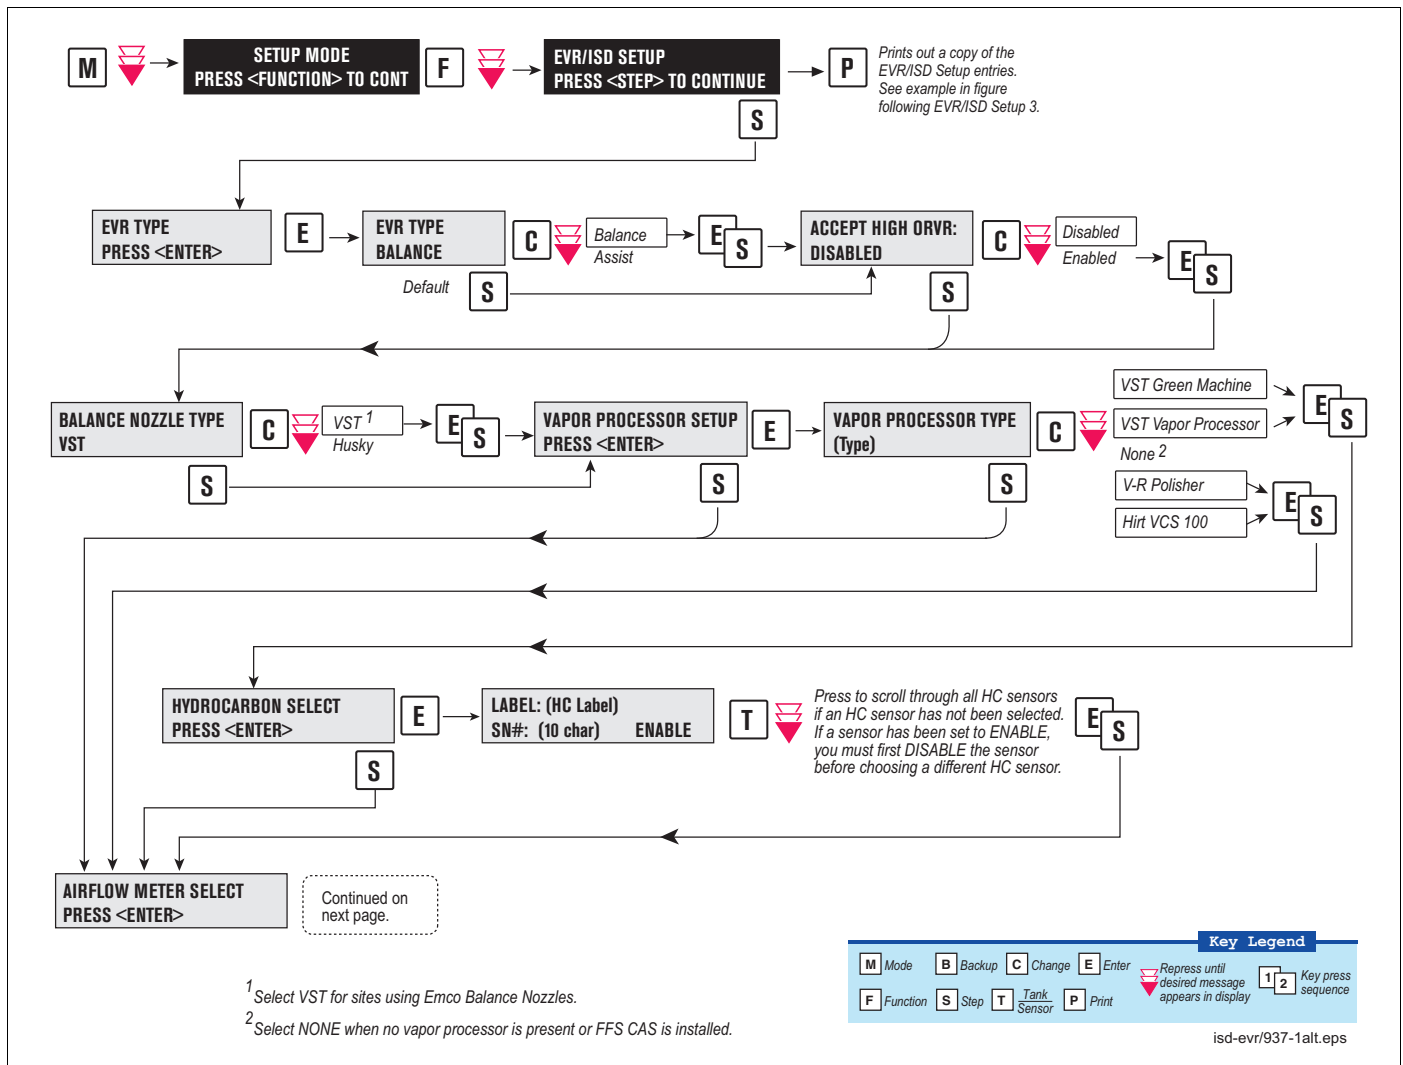
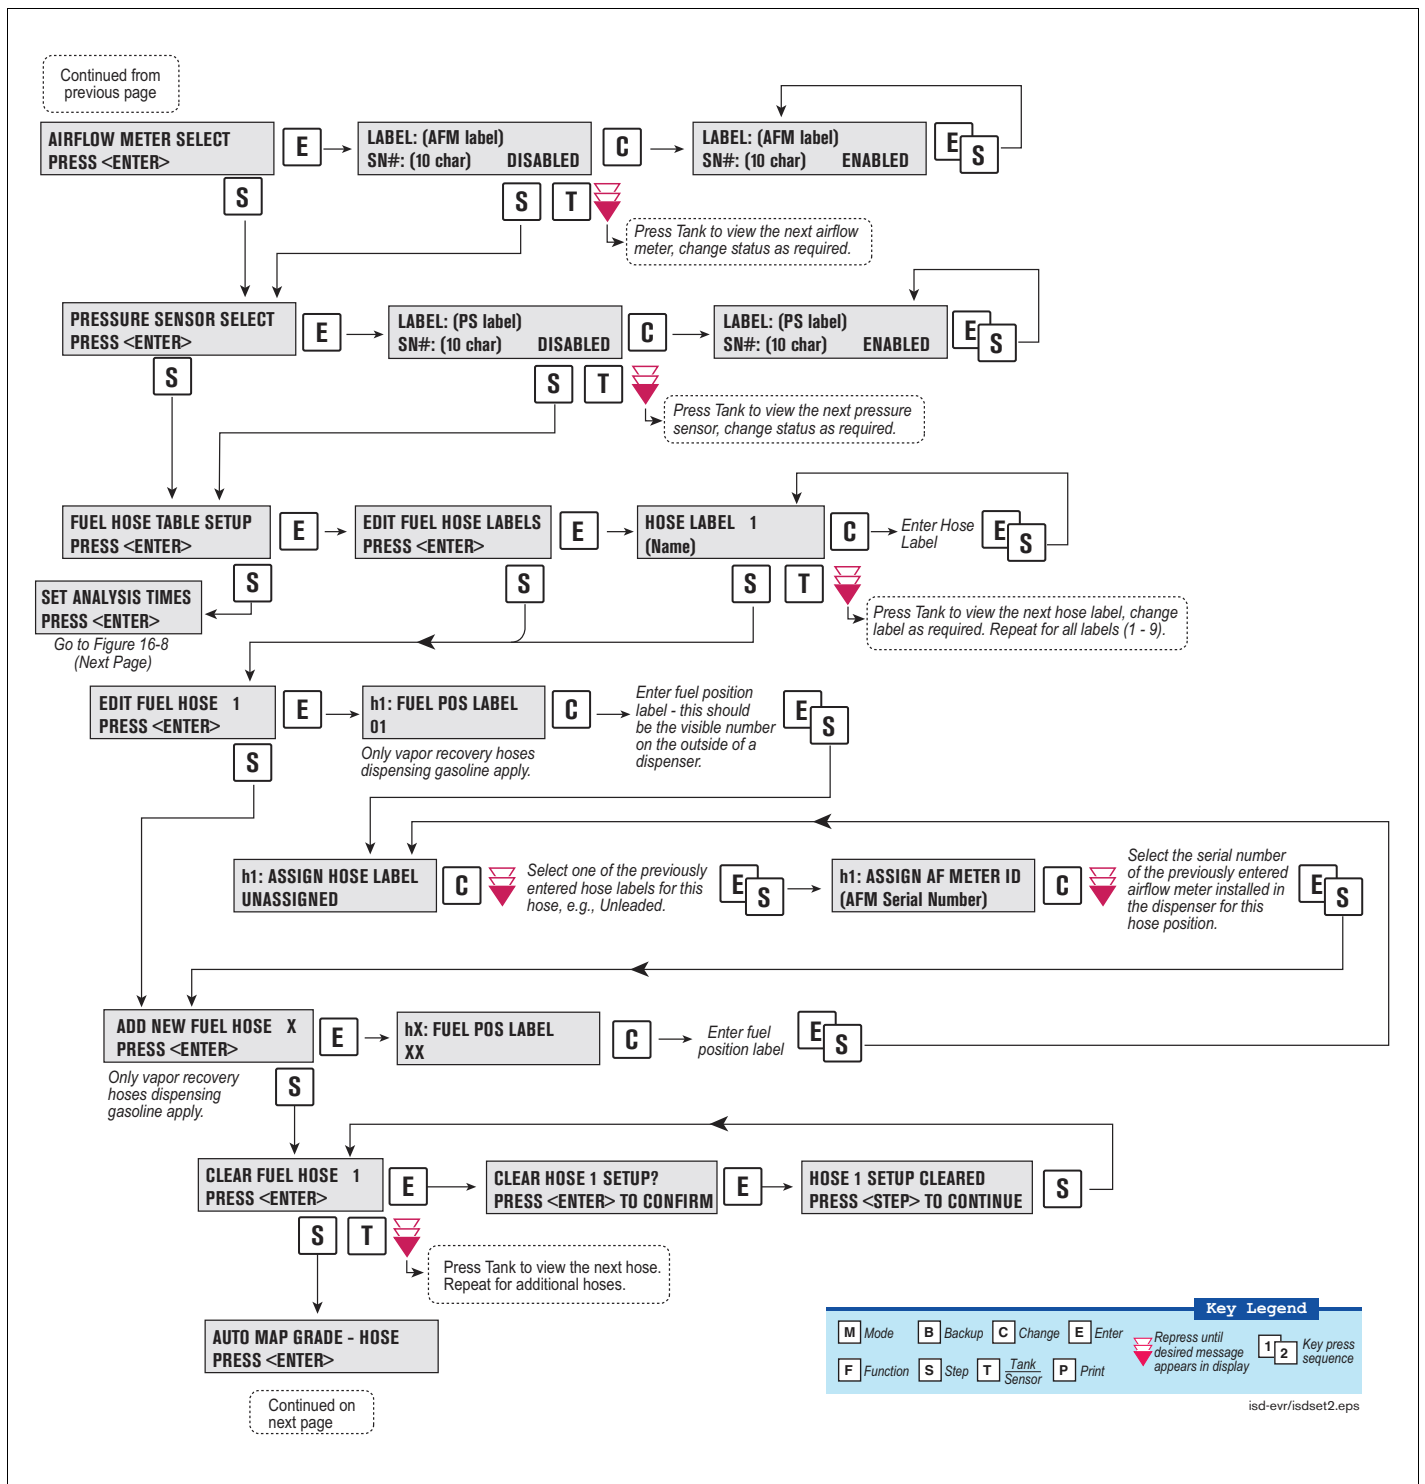
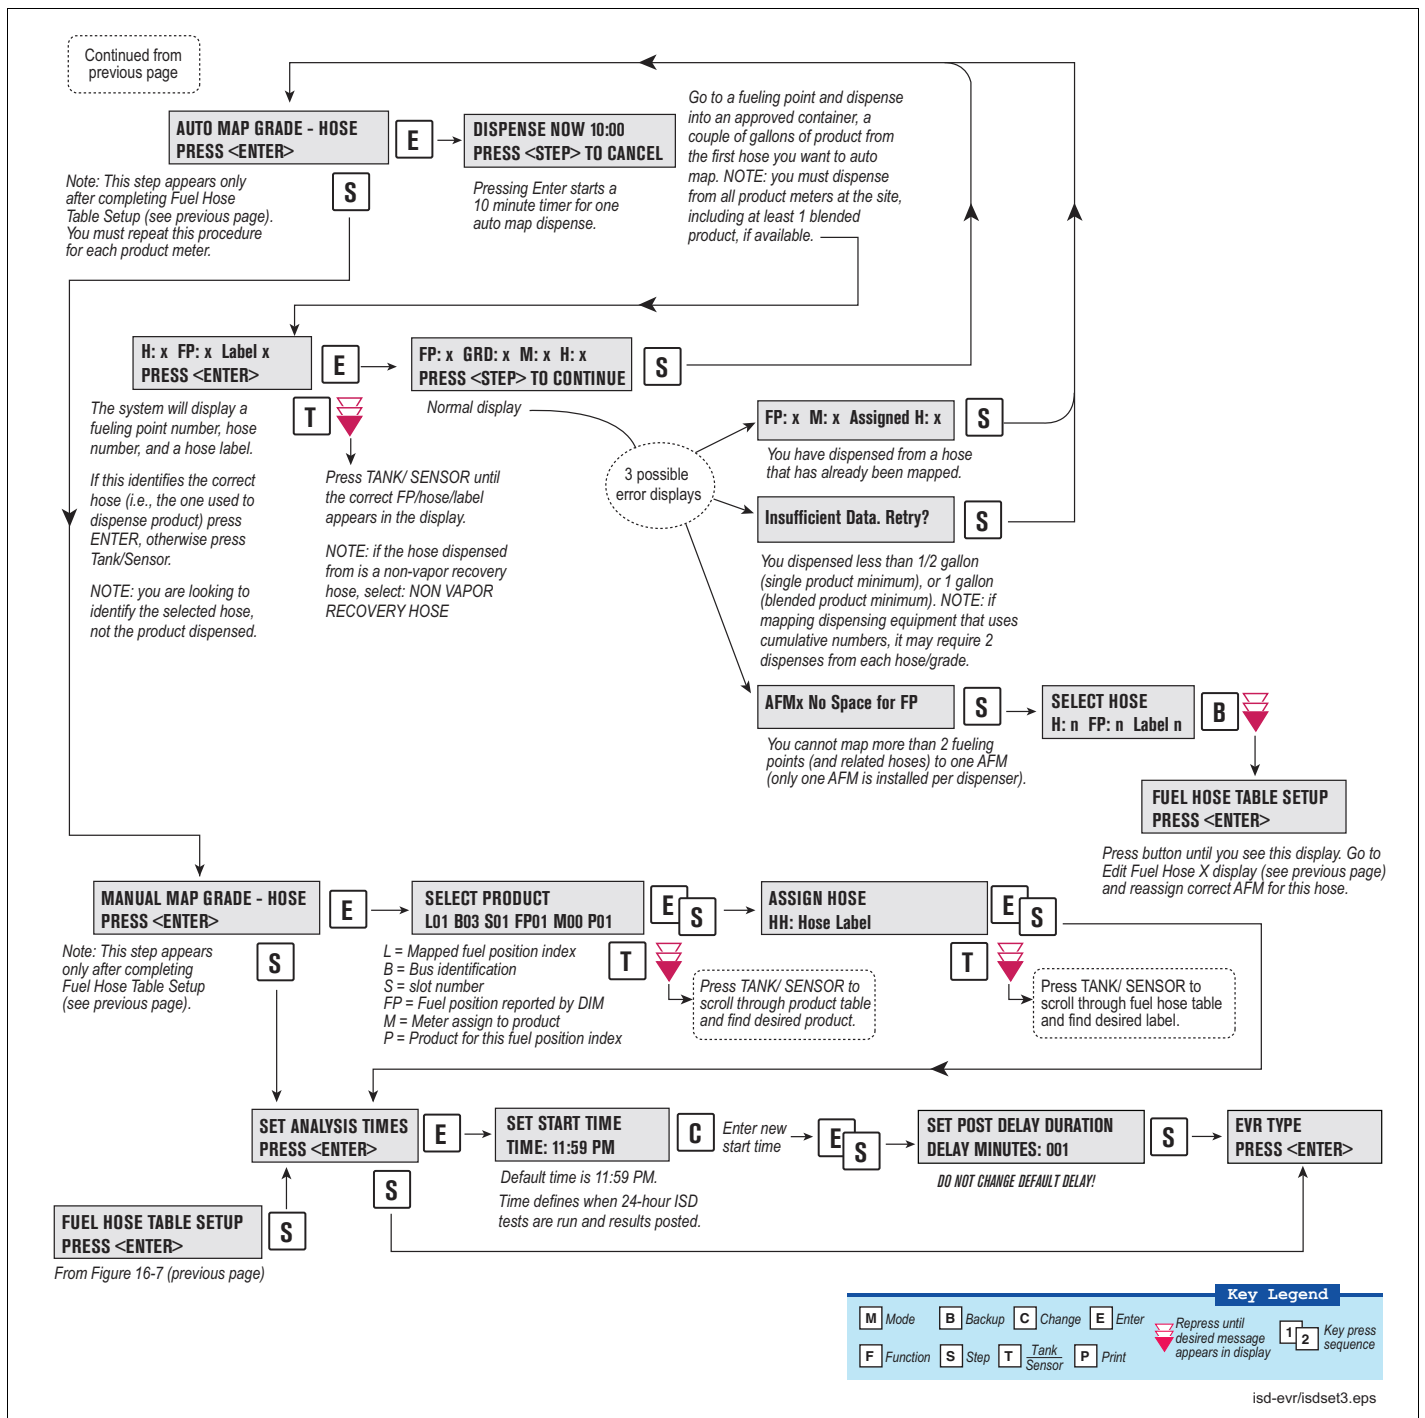

Figure 9. EVR/ISD Setup 1
Figure 10. EVR/ISD Setup 2
Figure 11. EVR/ISD Setup 3
- EVR/ISD Setup - All ISD sites (Figure 9, Figure 10 and Figure 11)
Figure 9 describes the first of the EVR/ISD setup programming diagrams.
Figure 10 describes the second of the EVR/ISD setup programming diagrams.
Figure 11 describes the last of the EVR/ISD setup programming diagrams.